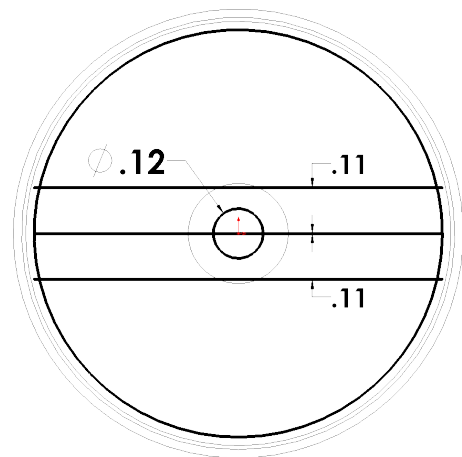

Fig. 25
Step 10. Click **Circle**  (S) on the Sketch toolbar.
Step 11. Sketch a **circle** at Origin , **Fig. 25**.
Step 12. Click **Smart Dimension**  (S) on the Sketch toolbar.
Step 13. Dimension diameter **.12**, **Fig. 25**.